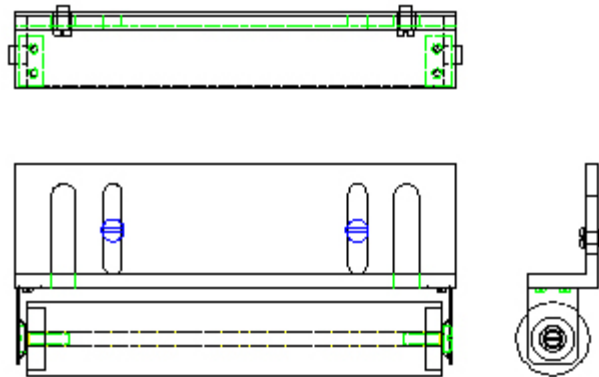

Figure 4; Hold Down Roll
2. Position the Model 1032 so that the web or webs will pass along the top of the base plate and under the sensing assembly. The web or webs can touch the base plate if required or run in the middle between the base plate and sensing assembly (*refer to Figure 3; Splice Detector Cross-Web Mounting Dimensions*). The web CANNOT touch the sensing assembly at all. If the web or webs are unstable or some situation exists which would cause the web or webs of material to touch the sensing assembly, slight pressure can be applied to the web by placing the web or webs directly onto the base plate. If web flutter persists a hold down roll should be installed to prevent the web or webs from touching the sensing assembly (*refer to Figure 4; Hold Down Roll*). (**NOTE** IF THE MATERIAL LOSES CONTACT WITH THE BASE PLATE OR TOUCHES THE TOP OF THE APERTURE FALSE SIGNALS WILL RESULT).
2. Hold Down Roll: To reduce flutter, a hold down roll may be installed. It should be understood that a hold down roll is not required for most applications and may be undesirable for some (*refer to Figure 4 - Hold Down Roll*).